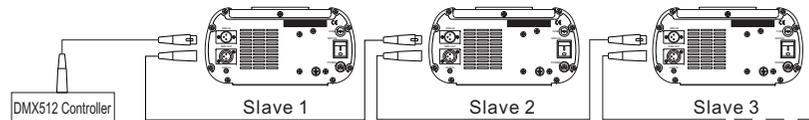

Fig. 2
- ① If you need Master/Slaves to change color synchronously, please set all of slaves into"001";
- ② If you need Master/Slaves to chase to change color, please set slaves into "009", "017" and so on(add "8" one after another).
(3) The connection of DMX Signal Control Mode(See Fig. 2):